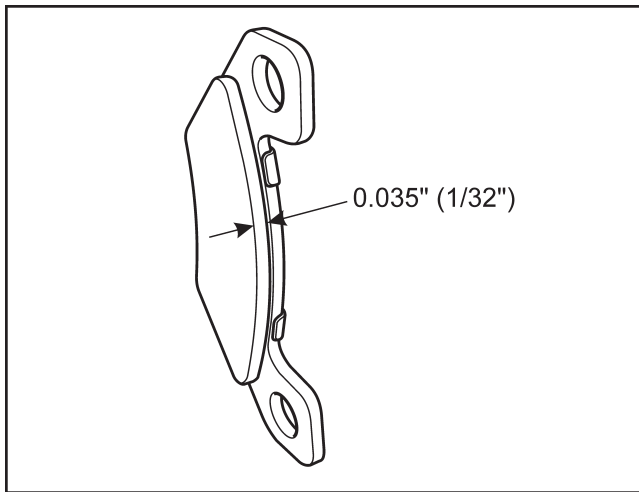

Figure 7-27. Brake pad wear, hydraulic handbrake pads
- the brake lining material molded to each metal backing plate is worn to 0.035" (1/32”) thickness. (Figure 7-27).